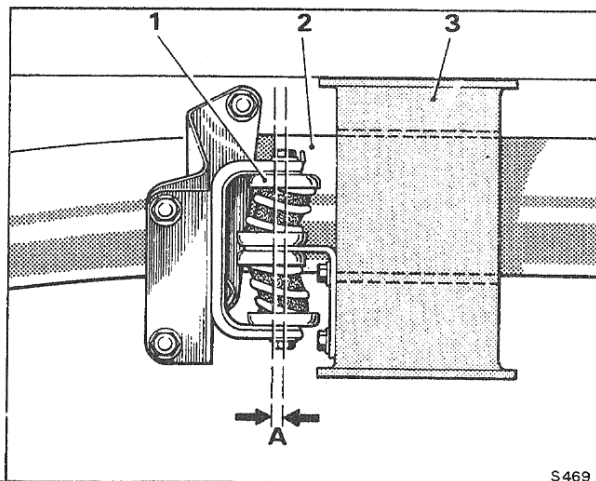

Fig. Q6 Exhaust mount – showing offset
8. The resilient metal exhaust mounts must be set approximately 6,35 mm. (0.250 in.) forward before tightening the 'U' clamp around the exhaust pipe (see Fig. Q6). This offset is to allow for expansion of the system.